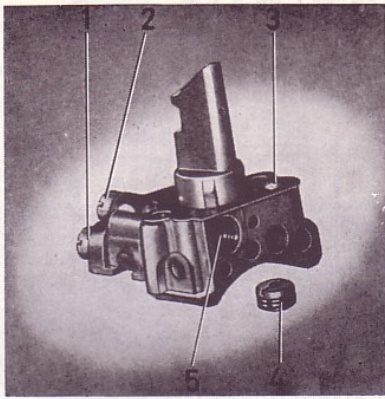

Fig. 83. Emulsion block
4. Screw out all the jets from the emulsion block, see Fig. 83.